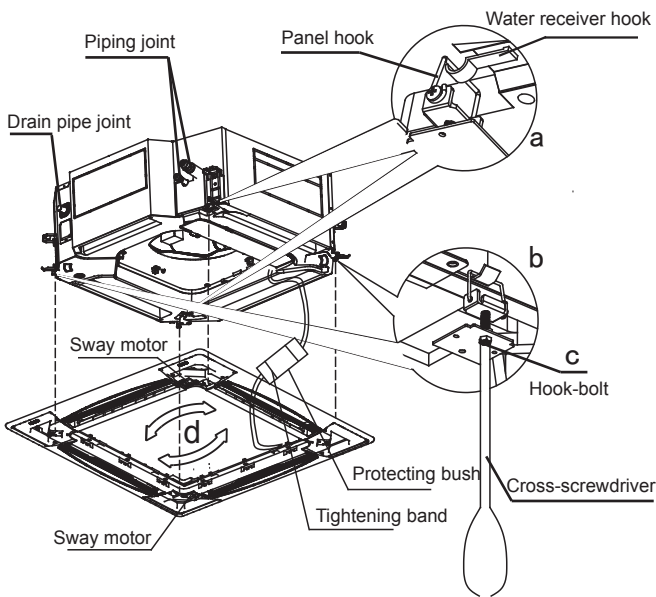

Fig.4-15
- 2) Fix hooks of the panel at the swing motor and its opposite sides to the hooks of the corresponding water receiver. (Refer to Fig.4-15 a) Then hang the other two panel hooks onto the corresponding hangers of the body(Refer to Fig.4-15 b). Use the protecting bush to protect the motor line after connecting.
- 4) Adjust the four panel hook screws to keep the panel horizontal, and evenly screw them into the ceiling. (Refer to Fig.4-15 c)